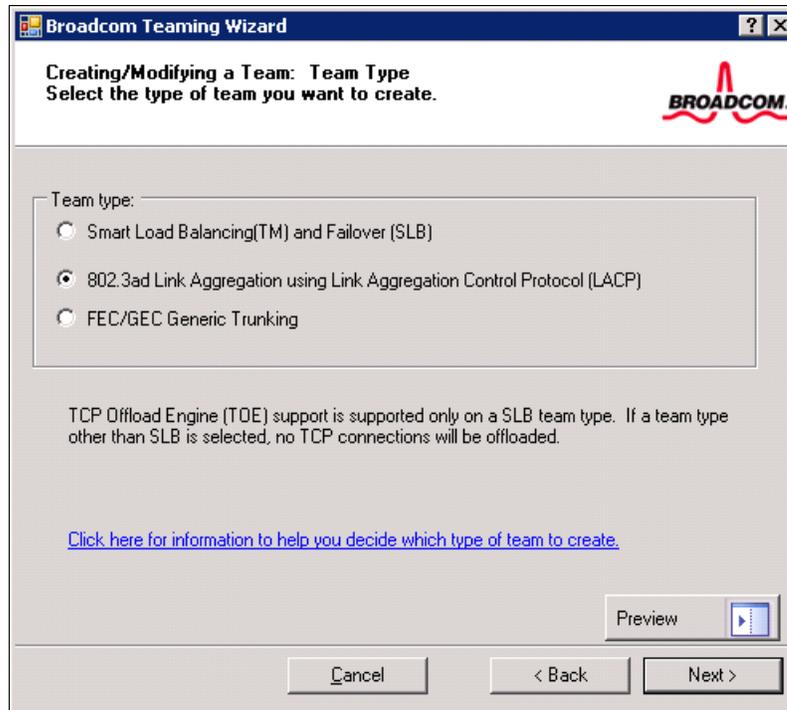

Figure 9-34 Creating/Modifying a Team: Team Type window
5. In the Team Type window (Figure 9-34), select the type of team that you want to create, and then click **Next**.